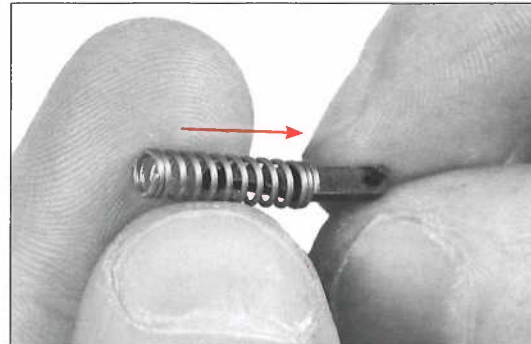

Fig. 262
- Slide the trigger spring down on the slotted end of the trigger spring rod. (Fig. 262)